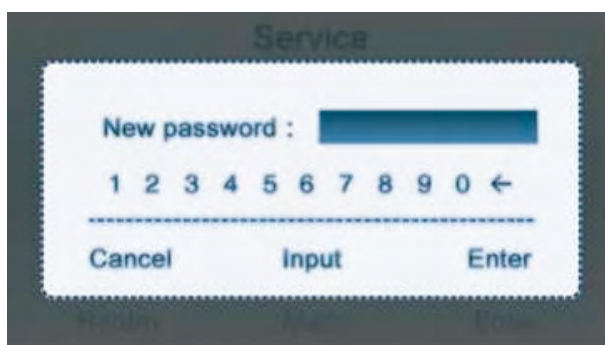

Figure 10
D. If the "original password" is entered successfully, a window will pop out as shown in Figure 10 prompting "New password"; enter the password in the same way as described above and then press "Enter" key again to confirm successful setting of new password or press "Cancel" key to cancel the password setting.